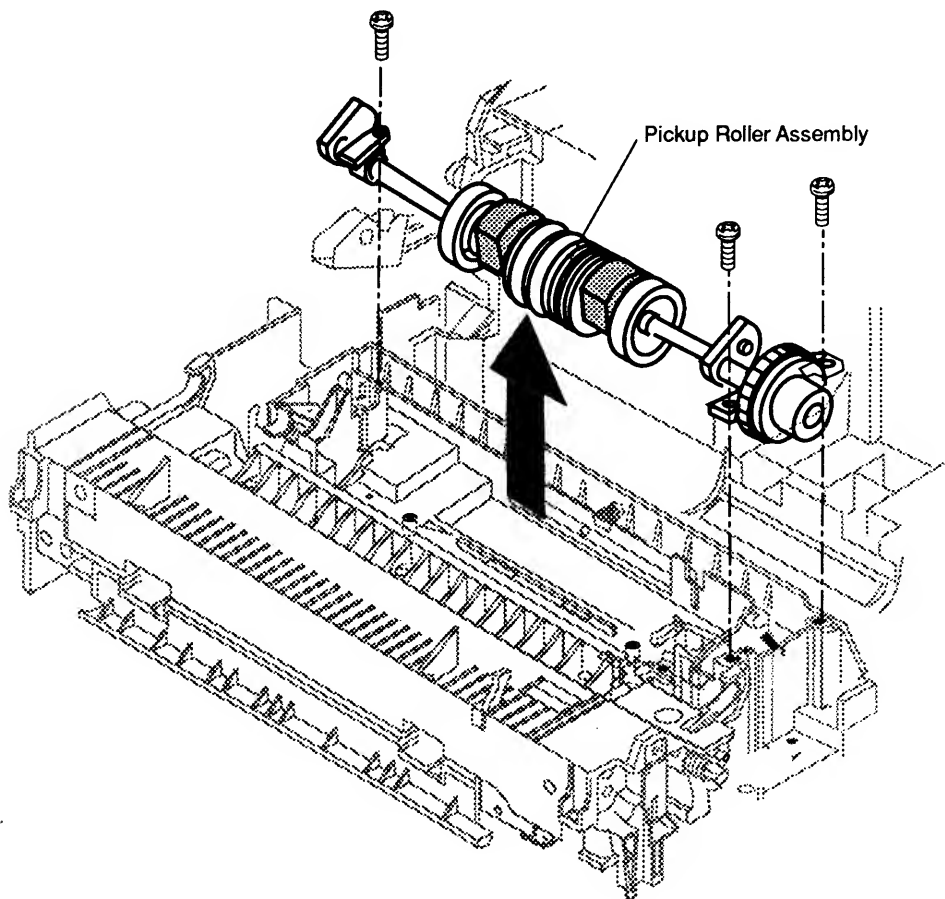

Figure 2-51 Pickup Roller Assembly
2. Remove the three black screws that hold the pickup roller assembly in place (**Figure 2-51**).
3. Grasp each end of the roller shaft and lift the pickup roller out of the printer (**Figure 2-51**).